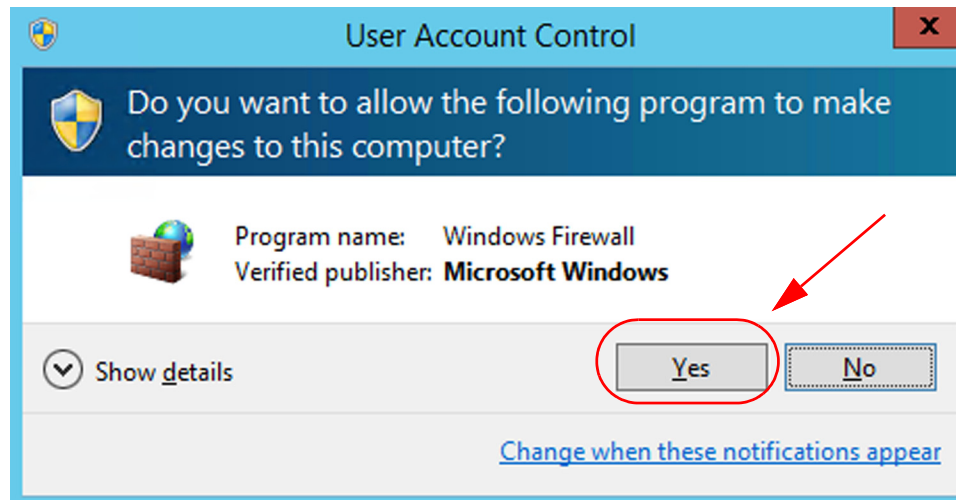

Figure 2.5: Windows Server 2016/2019: User Account Control
5. From the User Account Control screen, select “Yes”. Figure 2.5.